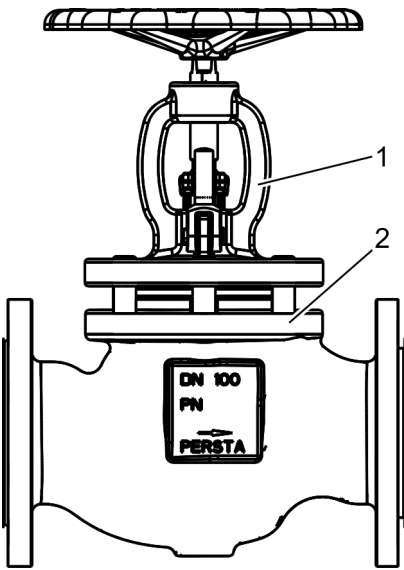

Fig. 34: Fitting the bonnet
33. Fit the bonnet (Fig. 34/1) onto the stud bolts on the body (Fig. 34/2).